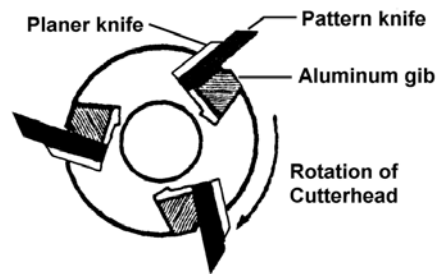

Figure 31
2. Insert the pattern knife next to the planer knife, as shown in Figure 31. Note: Small molder knives (1" and under) will require a spacer.